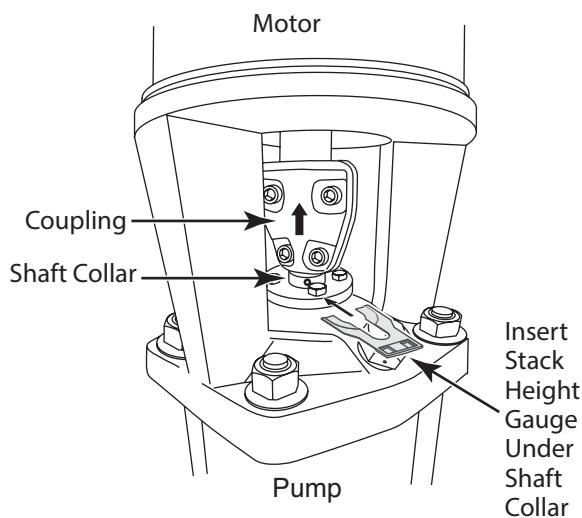

Figure 7 - Using the stack height adjusting tool
12. **PVM(X)1–PVM(X)20:** Reinstall the shaft pin (72) if your pump has one. Raise the height of the pump shaft by using the shaft pin (72) as a lift point (you may have to put a block under the pin and lift with a flat screwdriver). Insert the stack height adjustment tool (see Figure 7) in below the shaft collar and let the shaft collar rest on it. **PVM(X)33–PVM(X)150:** Pick up the shaft (if necessary, temporarily reinstall the coupling to provide a grip to lift by) and insert the stack height adjustment tool (see Figure 7) below the shaft collar. Let the shaft collar rest on it.